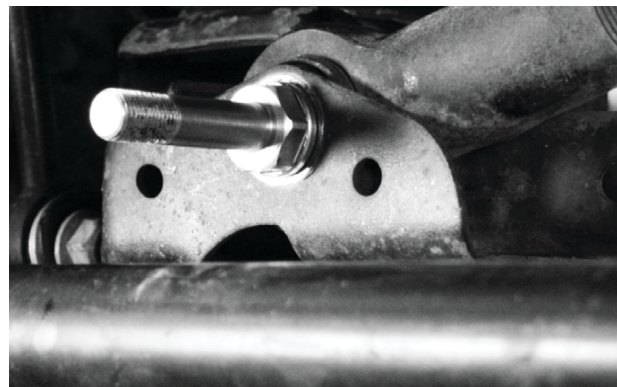

Fig. 1: Install the Group A track bar bolt.
3. Replace the stock track bar bolt with supplied Group A bolt (Fig. 1).